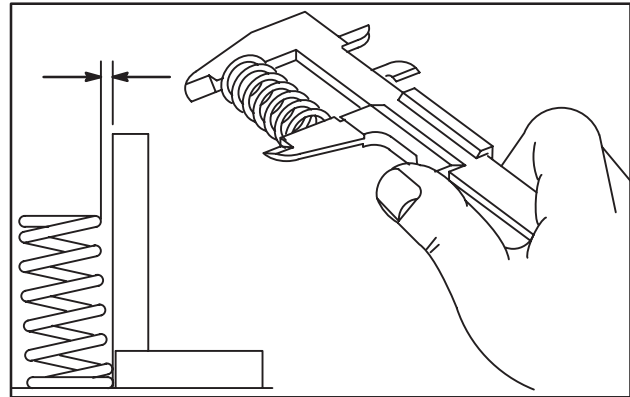

Fig. 21 – Check Valve Springs
9. Check valve springs for squareness and free length, Fig. 21.